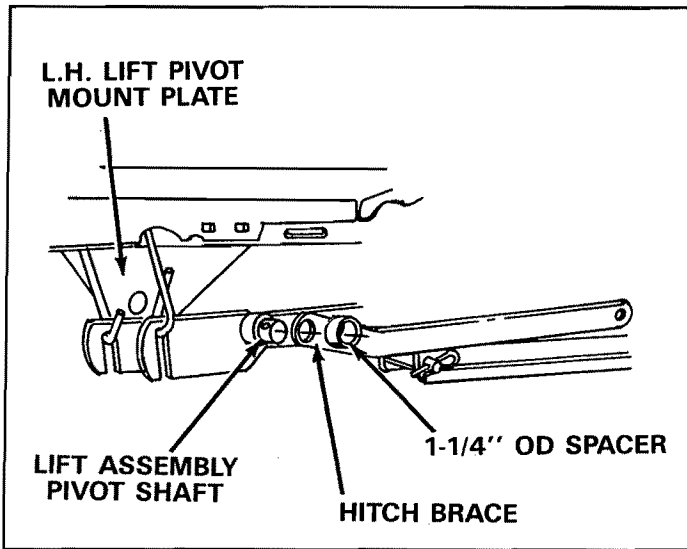
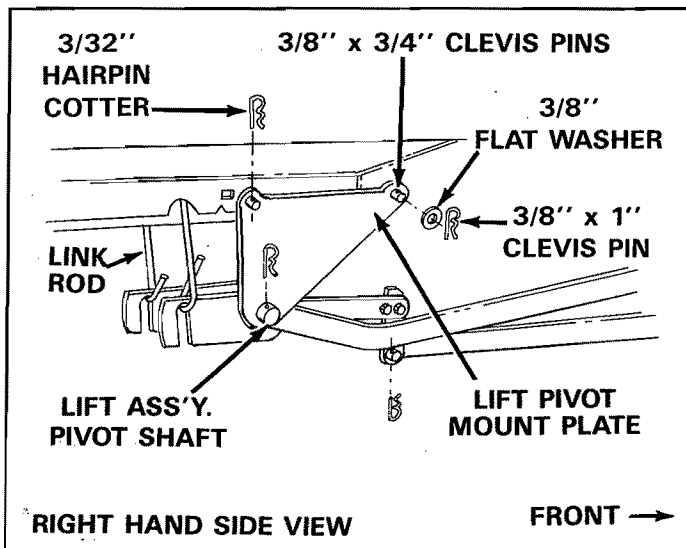

FIGURE 14
FIGURE 15
- Assemble one hitch brace (end with the large hole), one 1-1/4" OD spacer onto each end of the lift assembly pivot shaft. See figure 14.
- Insert pivot shaft end (from R.H. side of tractor) into hole in L.H. lift pivot mount plate. See figure 14.
15. Assemble the other lift pivot plate, over right hand end of lift assembly pivot shaft and connect to outside of frame (see figure 15) using one 3/8" x 1" clevis pin from inside through front hole in lift pivot plate. Secure with 3/8" flat washer and 3/32" (small) hairpin cotter. Secure rear of plate with one 3/8" x 3/4" clevis pin and one 3/32" (small) hairpin cotter. Secure ends of pivot shaft to each lift pivot plate with 1/8" (large) hairpin cotter. See figures 14 and 15.